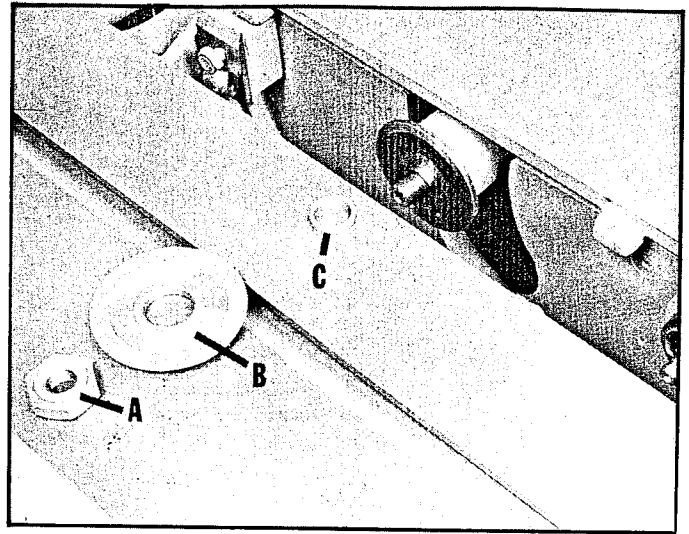

Fig. 7
1. Remove arbor nut (A), blade flange (B) and bushing (C) Fig. 7 from the arbor shaft. The bushing (C) Fig. 7, is required to allow the use of saw blades with one-inch diameter arbor holes. If saw blades with 20mm diameter arbor holes are used, the bushing is not required.